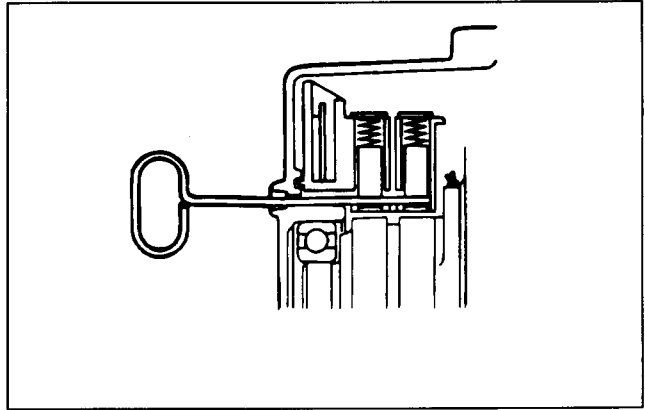

Figure 54
**IMPORTANT:** Put a wire through the small hole in the rear bracket to lift the brushes before installing the rotor to the rear bracket (Fig. 54). Remove the wire after the rotor is installed.